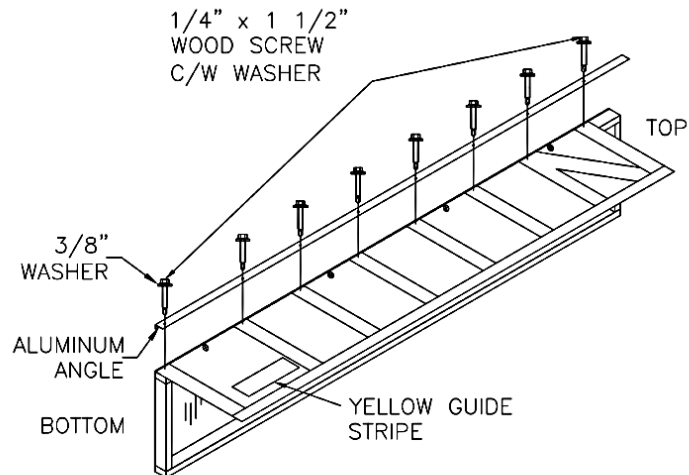

FIG. 5B
- Match holes** in Aluminum Angle with holes in Vertical Panel stays (Figure 5b).